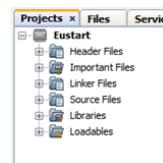

Figure 2: Screenshot the folder structure created for project
- Created project will have the folder structure as in Figure 2.